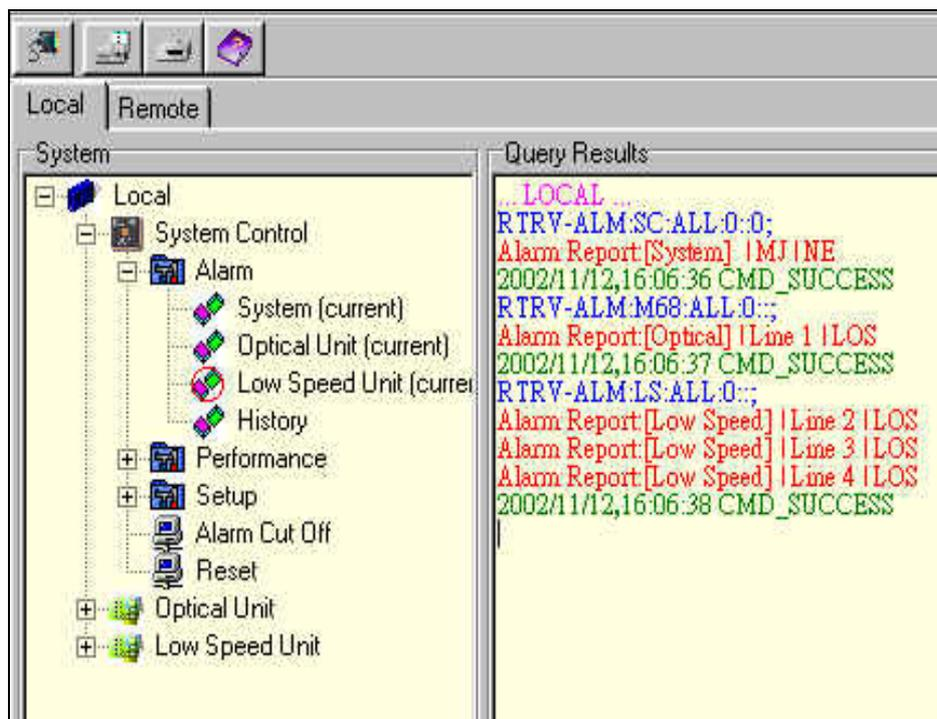

Fig.18 Alarm report
When the system control node is expanded, the form is shown in Fig.18. The system control provides alarm report, performance monitoring, system setup, alarm cut off, and system reset.
**Alarm report** provides system alarm, optical unit alarm, and low speed unit alarm. When the selected node is clicked, the alarm report is listed. The system is able to store up to 30 records. If there are alarms in the FOM16, alarm is displayed by red color to warn the user. The alarm report example is shown in Fig.18.